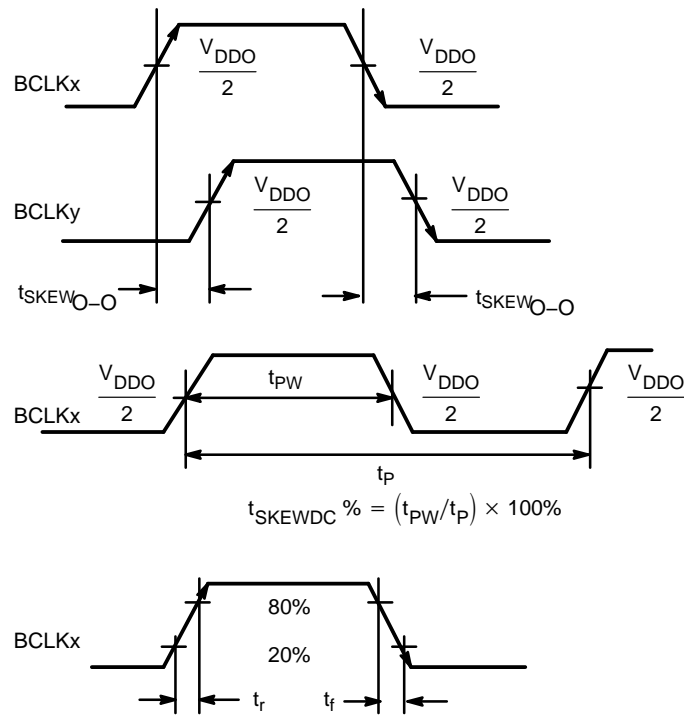

Figure 4. AC Reference Measurement
5. Crystal inputs  $\leq F_{max}$ . Outputs loaded with  $50\ \Omega$  to  $V_{DDO}/2$ . CLOCK (LVCMOS levels at XTAL1 input) 50% duty cycle. See Figures 4 and 7. See APPLICATION INFORMATION; Crystal Input Interface for CL loading.
5. Crystal inputs ≤ Fmax. Outputs loaded with 50 Ω to VDDO/2. CLOCK (LVCMOS levels at XTAL1 input) 50% duty cycle. See Figures 4 and 7. See APPLICATION INFORMATION; Crystal Input Interface for CL loading.